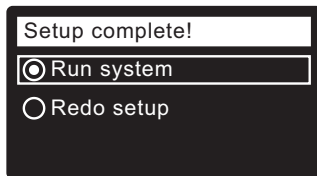

FIG. 23
24. Press the SELECT (O) button. The screen will show “Setup complete!” (See Figure 23).
25. If, at this point, you want to go back and make changes, press the DOWN (▼) button to scroll to **Redo setup**, then press the SELECT (O) button twice to repeat the “wizard” screens.
26. If no changes are desired, make sure **Run system** has a dot next to it (See Figure 23) and press the SELECT (O) button. The unit begins normal operation, described on Page 28.